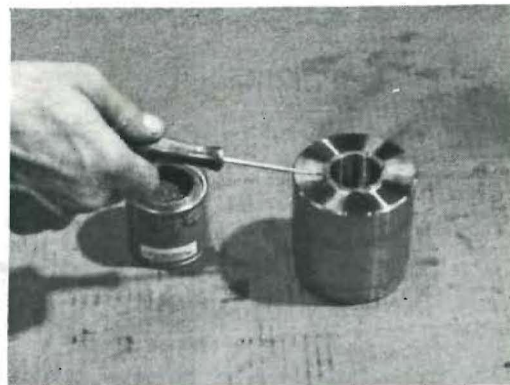

FIGURE 6-13
- B. IF THE LEAK IS BETWEEN THE PACKING CARTRIDGE (6) AND PRESSURE SLEEVE (3), THESE PARTS MUST BE LAPPED TOGETHER. COAT THE SEALING FACE WITH 600 GRIT LAPPING COMPOUND (FIGURE 6-13), AND OSCILLATE THE CARTRIDGE AGAINST THE SLEEVE, BY HAND, UNTIL THE SCRATCH IS GONE. (THIS IS EASIEST TO DO WITH THE SLEEVE INSTALLED IN THE FRAME PLATE. THE PLATE WILL GUIDE THE CARTRIDGE AS IT IS OSCILLATED, AS SHOWN IN FIGURE 6-14.)